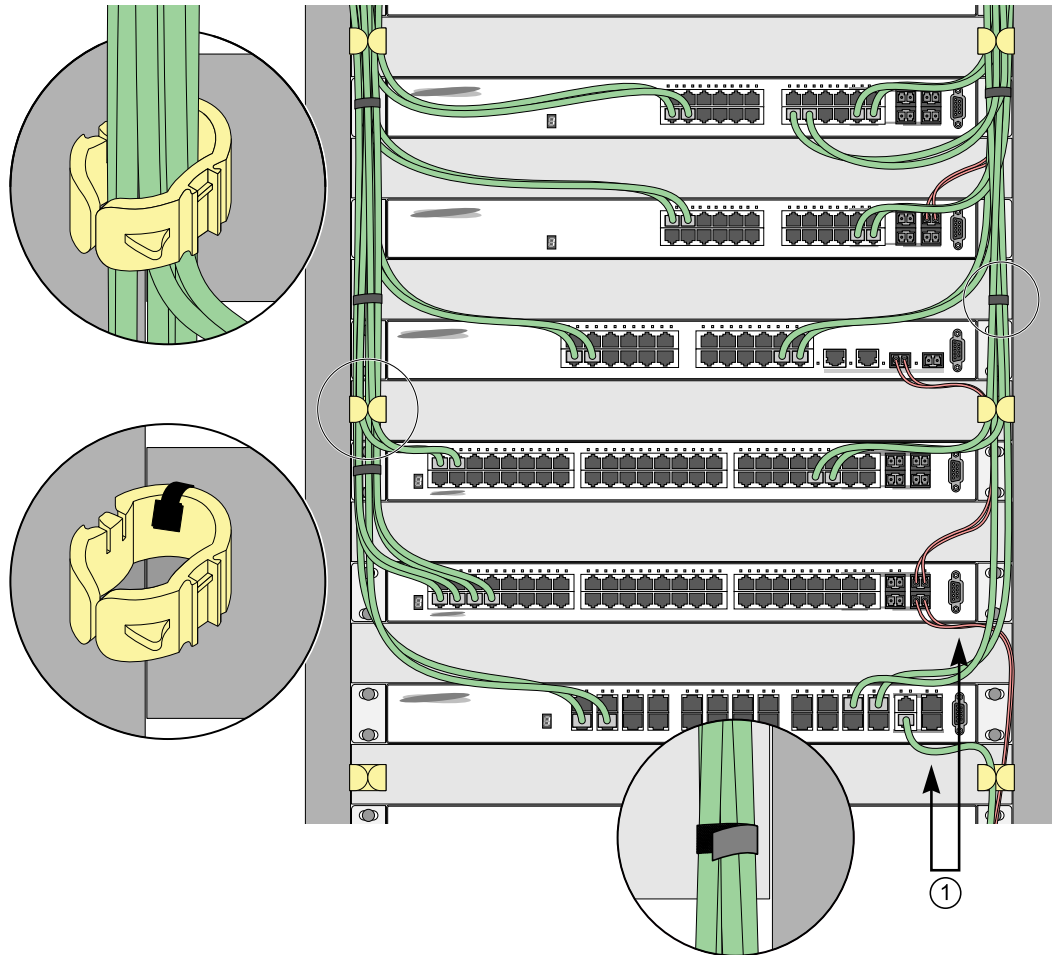

Figure 196: Properly Installed and Bundled Cable
- Provide enough slack, approximately 5 to 7.5 cm (2 to 3 in), to provide proper strain relief as shown in Figure 196 on page 228.
- When installing a patch panel using twisted pair wiring, untwist no more than 2.5 cm (1 in) of the cable to avoid radio frequency (RF) interference.